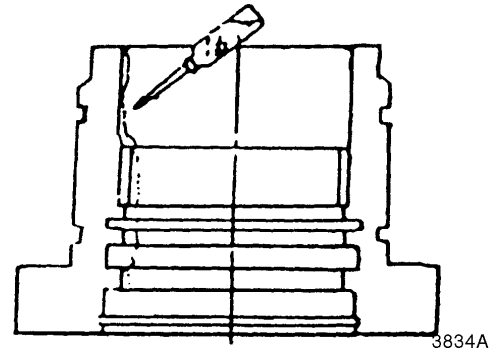

Figure 16
1. Apply grease to inner part of cylinder head and to U-packing groove. See Figure 16.